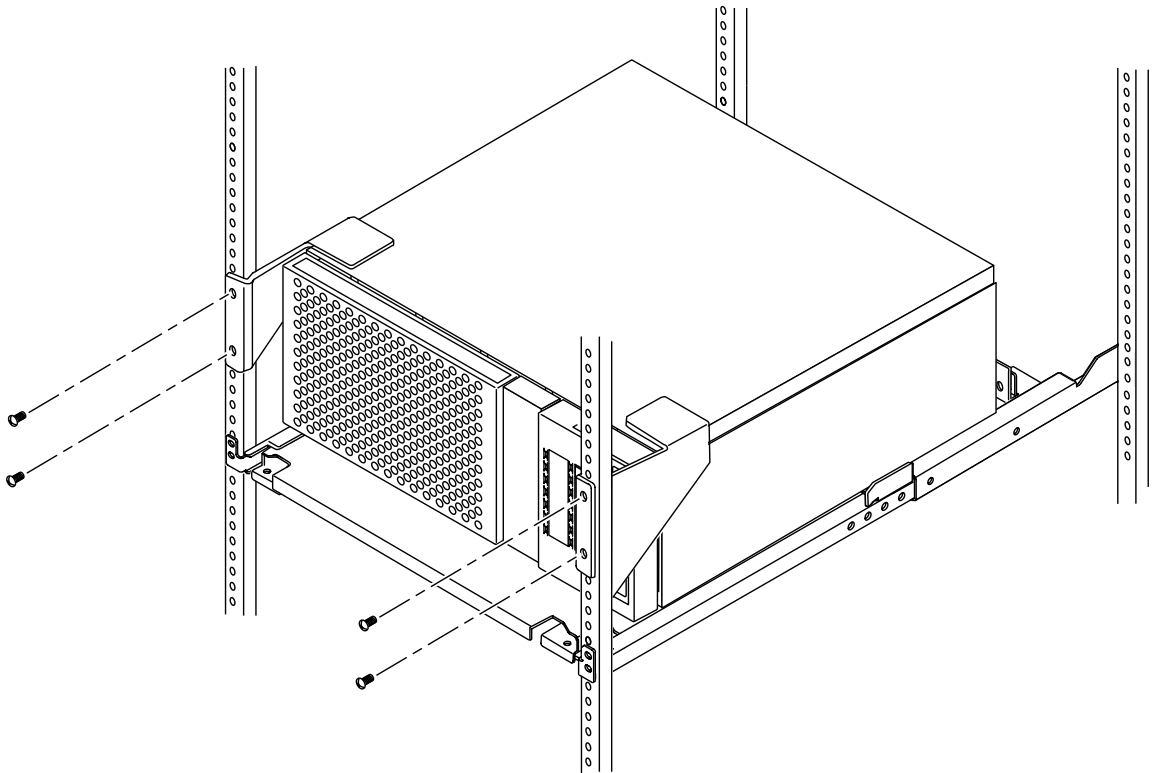

FIGURE 12 Fastening the Front Brackets
5. Using two of the provided screws, fasten the left front bracket to the rack (FIGURE 12).
7. Using two of the provided screws, fasten the right front bracket to the rack (FIGURE 12).